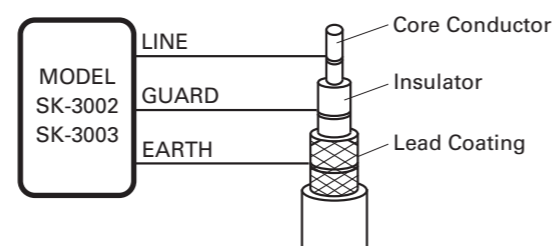

Fig. 7
- The GUARD Terminal is used for measuring only the Volume Resistance of the object under test eliminating the influence of its surface leakage resistance. In a cable insulation test as illustrated in Fig.7 for example, wind a bare lead wire around the insulator and connect it to the GUARD Terminal. As the leakage current along the surface of the insulator does not run through the meter, only the Volume Resistance of the insulator can be measured.